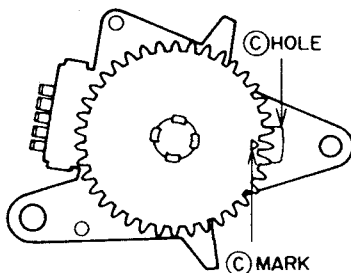

Fig. 3-16
1) Set the MODE SELECT SWITCH's gear so that the © mark is in the center of the © hole as shown in Fig. 3-16.